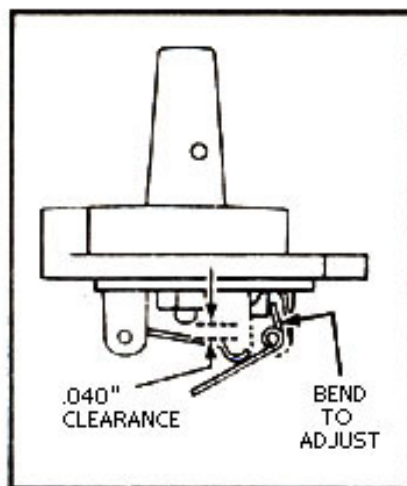

Figure 2
B. Inlet Needle Clearance: (Fig.2)